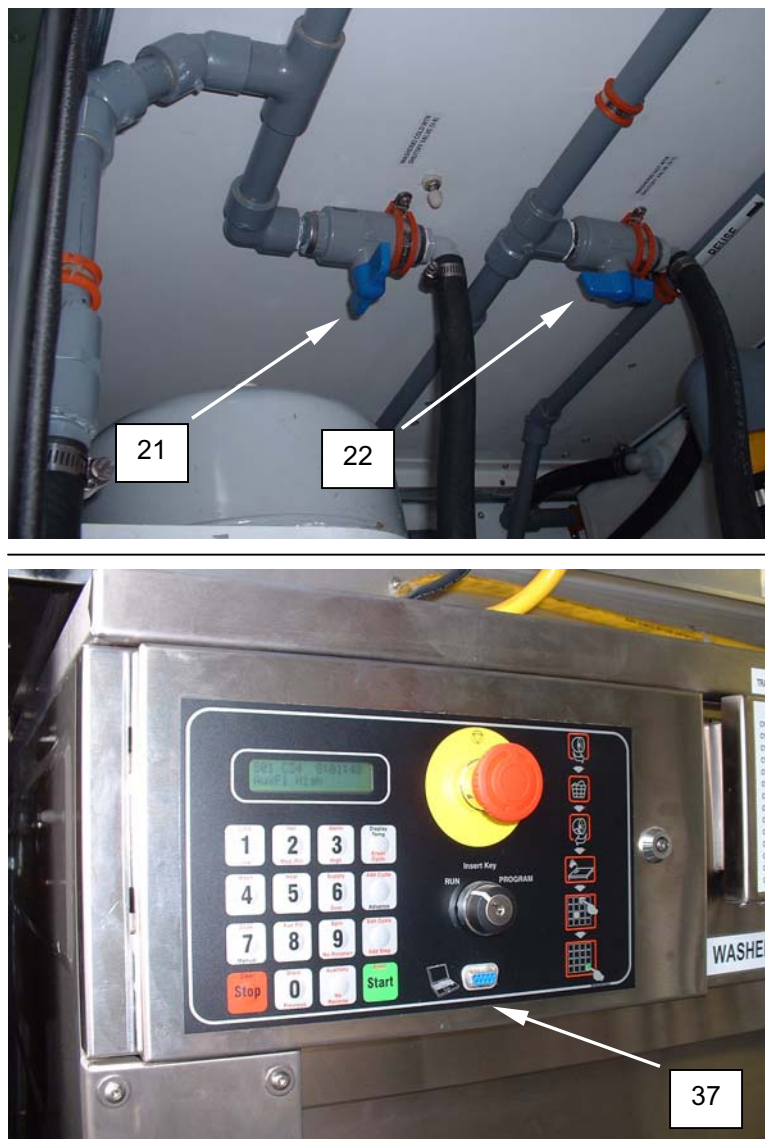

Figure 19. Purge Washer No. 2.
5. Close the washer No. 2 cold water inlet valve V-8 (**Figure 19, Item 21**).
6. Open the washer No. 2 hot water inlet valve V-7 (**Figure 19, Item 22**).
7. Run cycle 35 on washer No. 2 (**Figure 19, Item 37**) to evacuate water from the washer supply and detergent lines. (NOTE:
9. Wait until washer No. 2 (**Figure 19, Item 37**) displays DONE.